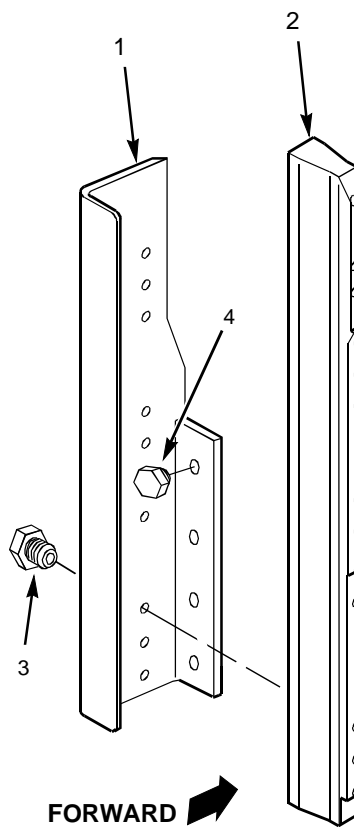

Figure 1-4. Right A-Pillar Reinforcement Installation (2 and 4 Door)
- 2) Install right side A-pillar reinforcement and A-pillar armor as follows (see figure 1-4).
- a. Apply Sealing compound to threads of nine A-Pillar reinforcement long inserts (3) and four A-Pillar reinforcement short inserts (4).
- b. Install four A-Pillar reinforcement short inserts (4) in right A-pillar reinforcement channel (1).
- c. Install right A-pillar reinforcement channel (1) to A-pillar reinforcement bar (2) with nine A-Pillar reinforcement long inserts (3) per figure 1-4.